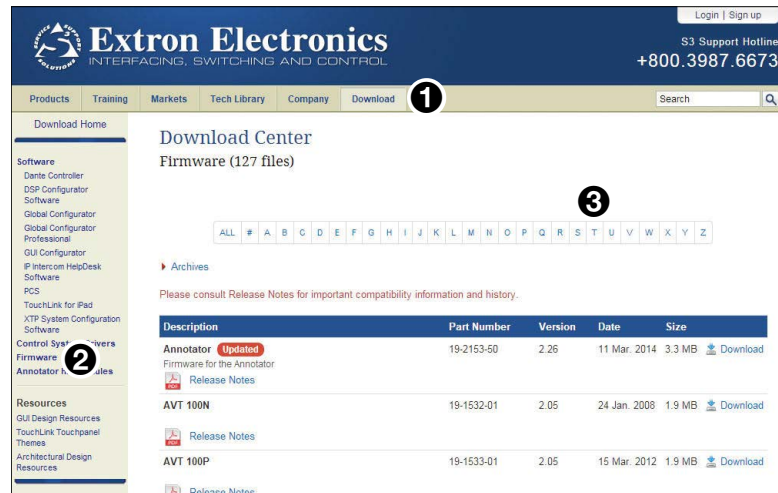

Figure 19. Firmware Download Center
2. On the Extron website, click **Download** in the menu bar along the top of the page (see figure 19, ❶).